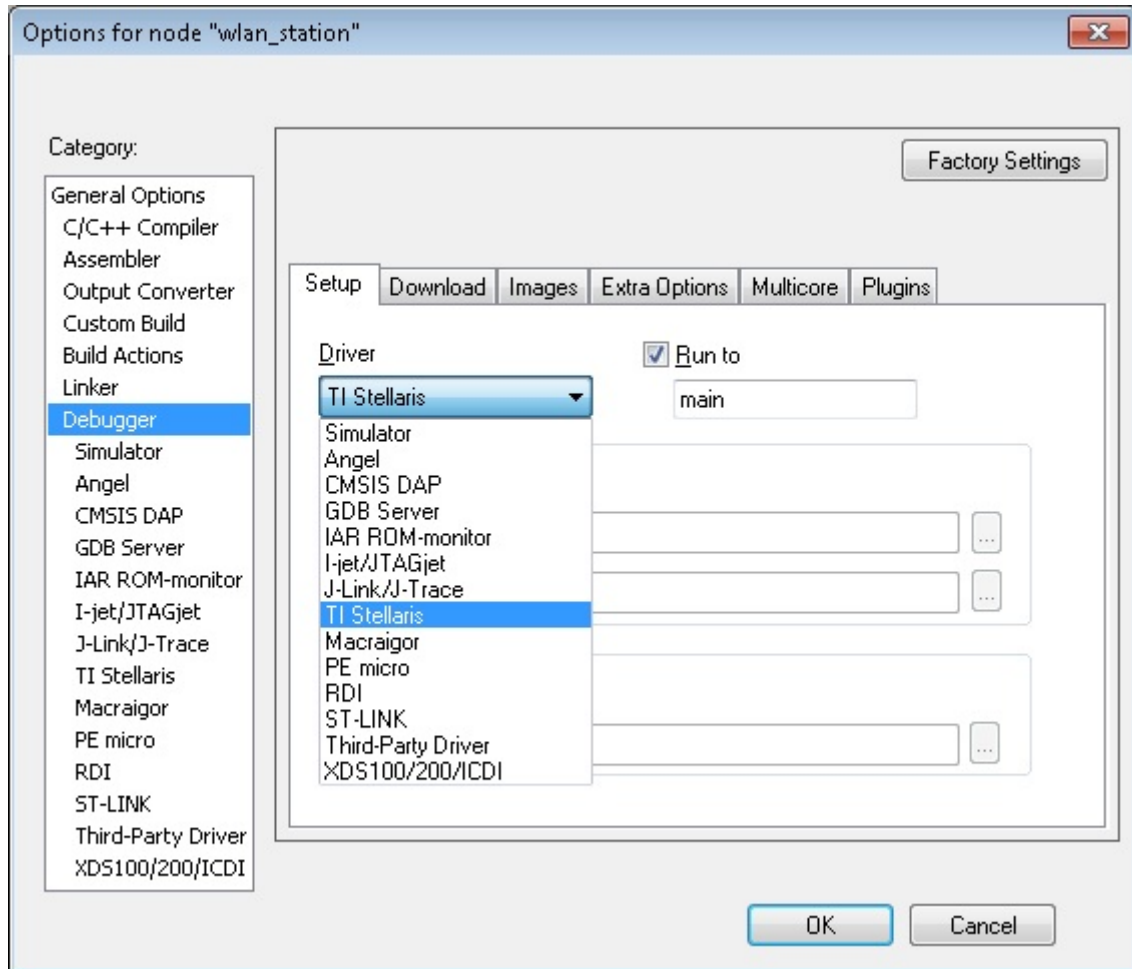

Figure 22. Select TI Stellaris Driver
6. The debugger must be configured to download code to the device. Select *Project>Options* from the menu, and select the Debugger category. In the Setup tab, choose TI Stellaris as the driver, as shown in Figure 22, and press OK.